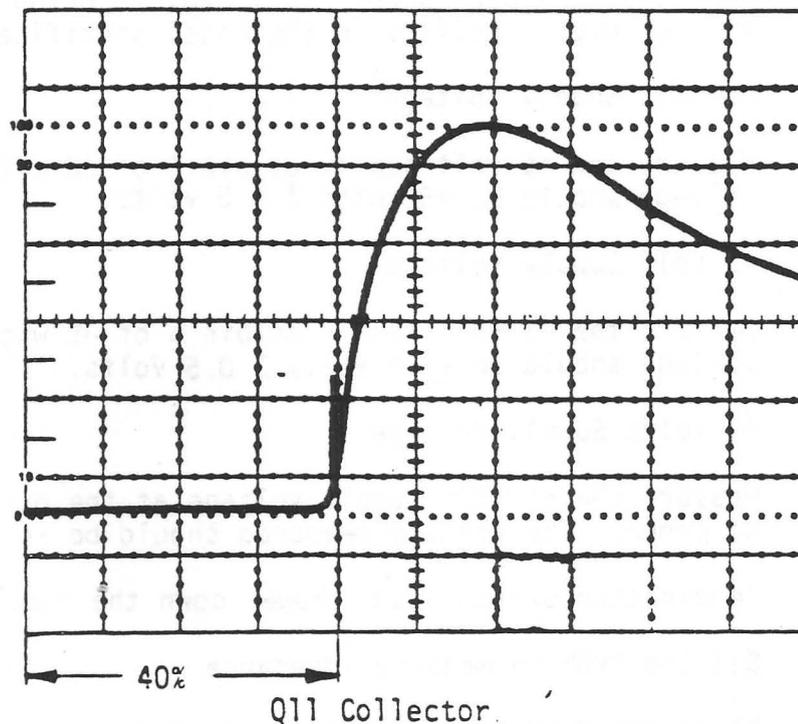

FIGURE 5
- 4.5.1.3 Adjust the time scale such that the waveform completely spans the 10 time division's. See Figure 5.